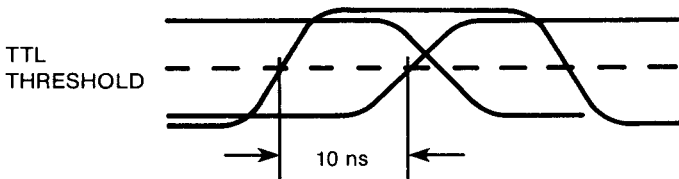

Figure 5.8
- b. Adjust W1 (R14) for 10 ns between the \overline{WE} rising edge and the first address edge. (See Figure 5.8).